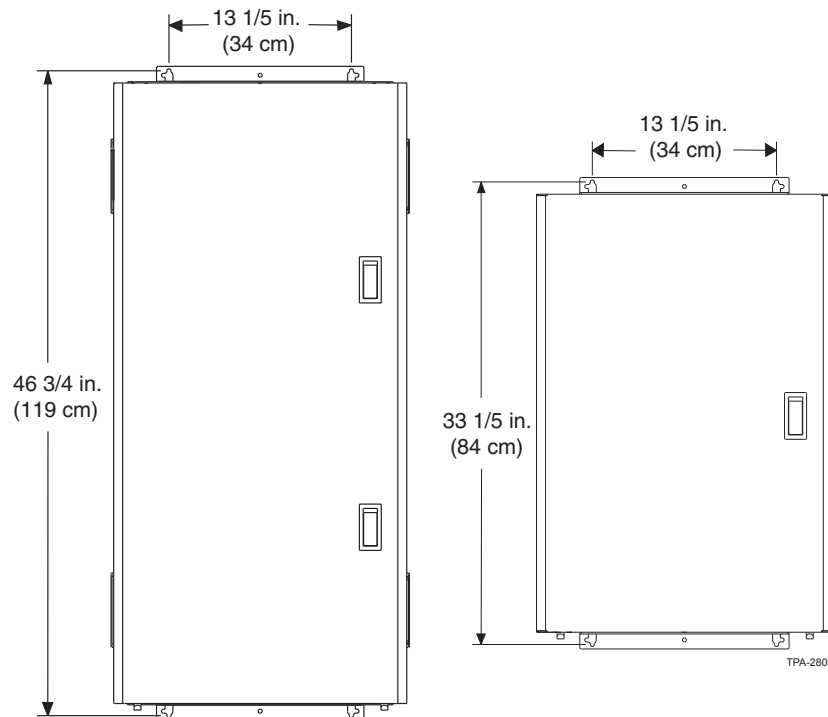

Figure 3 — Remove and Reattach Brackets for Wall Mounting
- Step 2:** Reattach the mounting brackets to the top and bottom of the cabinet as seen in Figure 3.